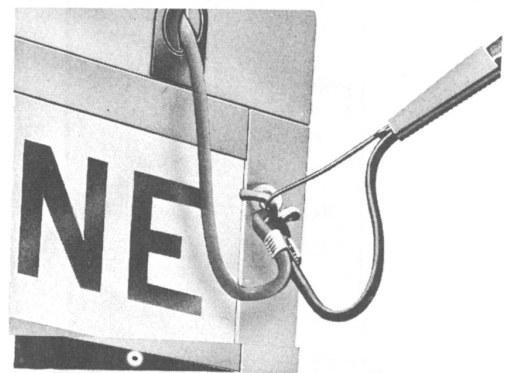

Fig. 4 - Drop Wire Hook (Right Side)
A. Drop Wire Hook (Fig. 4)
- (1) Drill 11/32-inch hole 2 inches below top of column and 1 inch from outside corner.
- (2) Attach drop wire hook with 5/16 by 2-inch stove bolt and 3/8-inch corrosion resistant washers.